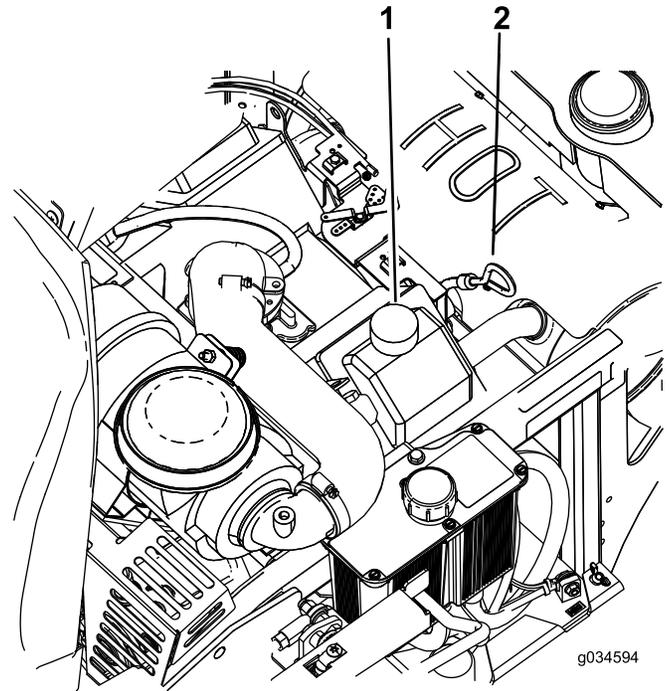

Figure 39
5. Clean the area around the dipstick (Figure 39).
9. If the oil level is low, wipe off the area around the oil fill cap, remove cap and fill to the **full** mark on the dipstick (Figure 39). Do not overfill.
4. Slowly pour approximately 80% of the specified oil into the filler tube and slowly add the additional oil to bring it to the **full** mark on the dipstick (Figure 39).
5. Start the engine and drive to a flat area. Check the oil level again (Figure 39).